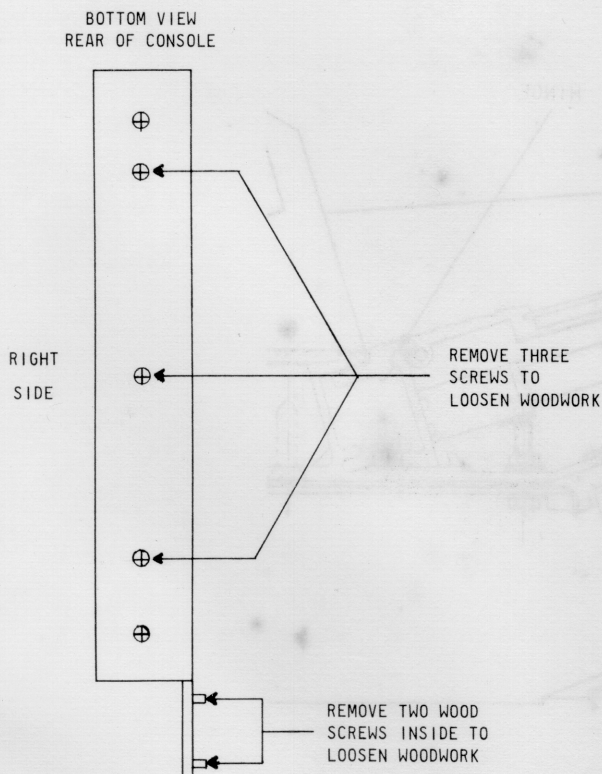

Fig. 3-1
**3-15. UPPER CONSOLE WOODWORK.** – Locate five Phillips head woodscrews at right side of console as viewed from bottom of upper console assembly. Remove center three as illustrated in Figure 3-1. Remove lower manual cover which contains the pedal light and headphone jack by removing four Phillips head machine screws. Care must be taken not
to break the connections to the phone jack when cover is freed from console. Inside below the lower manual right end block, remove two slotted hex head woodscrews as illustrated in Figure 3-1.